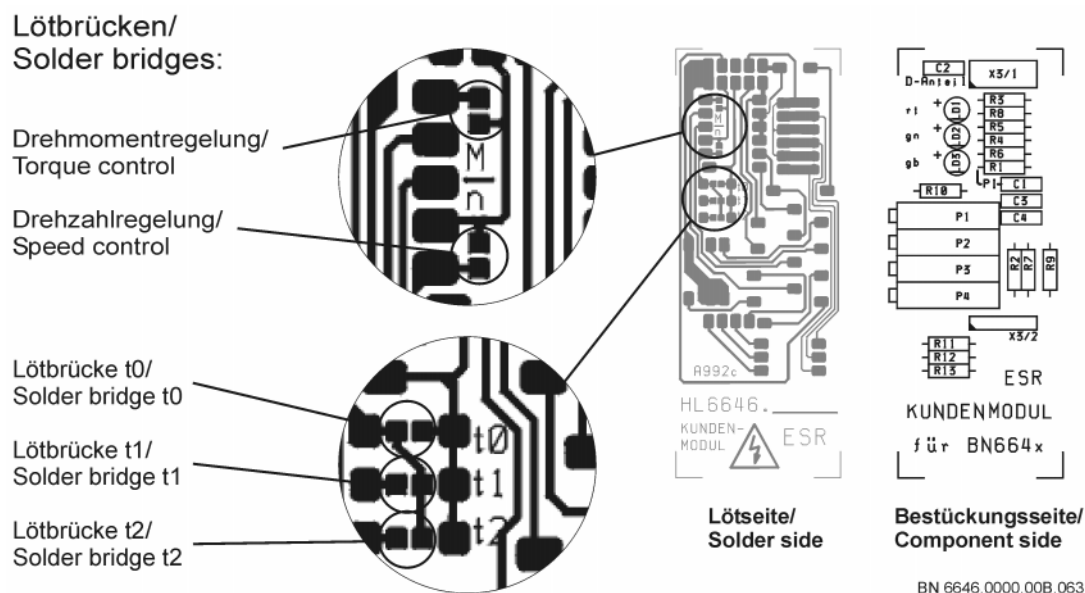

Fig. 13: Location of the solder bridges on the customer module
- Figure 13 shows the location of the solder bridges.
Figure 13 shows the location of the solder bridges. The following applies:
On former versions of the module, the t0 solder bridge is missing (I component cannot be switched off), and the location of the other solder bridges is slightly different from the one shown in fig. 13.
If a D circuitry is to be connected to the speed feedback (PID controller), the components C 2 and R 10 must be installed on the customer module. Their locations are printed on the board (see fig. 13). The values must be determined by experiment. 100 nF and 100 kΩ can be regarded as guide values.